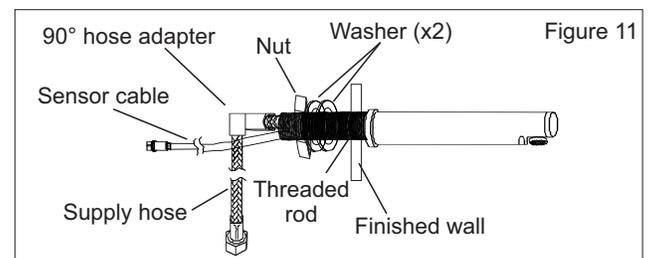

Figure 11
2. Feed the threaded rod and sensor cable through the 1-1/2" (38mm) hole in center as pictured in Figure 11.
3. Place spout against wall and fasten securely with the provided (2) washers and nut as pictured in Figure 11.
4. Connect supply hose to 90° hose adapter as pictured in Figure 11. Do not over-tighten.